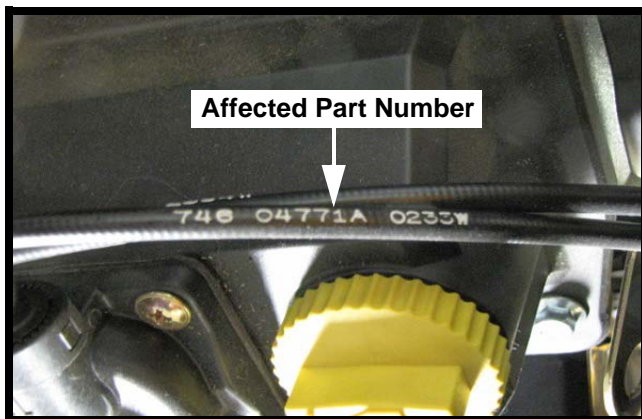

FIGURE 1
1. Check and Identify both throttle and choke cables on all affected Models listed above in the Serial Number Range Affected for the affected cable part number in white on the black casing of the cables. See Figure 1.